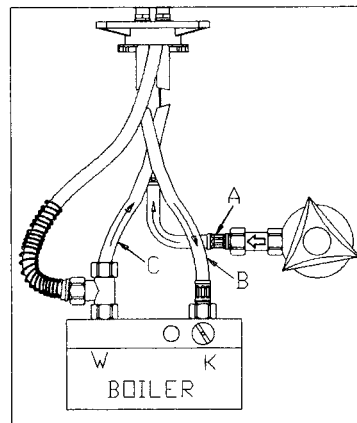

Fig. 1
- ◆ Loosen the nut (19) and remove the fixing kit (18 a - b).
- ◆ Insert the reinforcement plate (17) (optional) the shaped gasket (18-a) and the fixing flange (18-b) on the threaded rod.
- ◆ Tighten with the nut (19) (Fig.1)